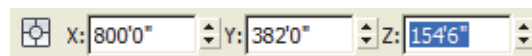

Figure 3–35
18. In the Front viewport, use  (Zoom Region) and create a rectangular window around the building to only zoom into the building. Select the **Wireframe** Visual Style label and select **Realistic**. The building displays as shown in Figure 3–36